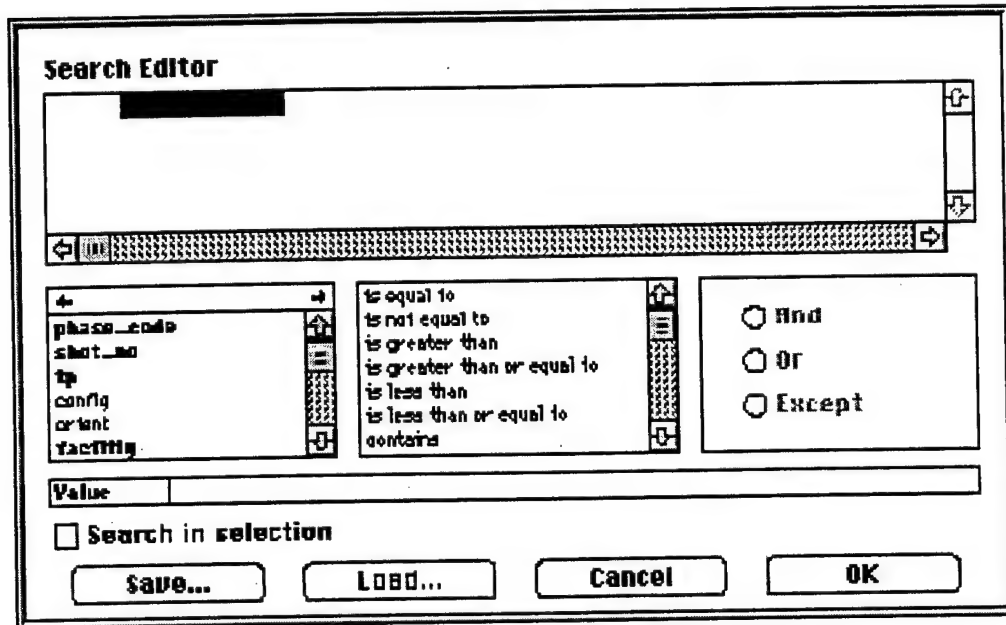

Figure 3.6: Search Editor dialog box for f18 measurement file
4. Choose **Search Editor...** from the **Select** menu. A dialog box similar to that shown in Figure 3.6 will appear.